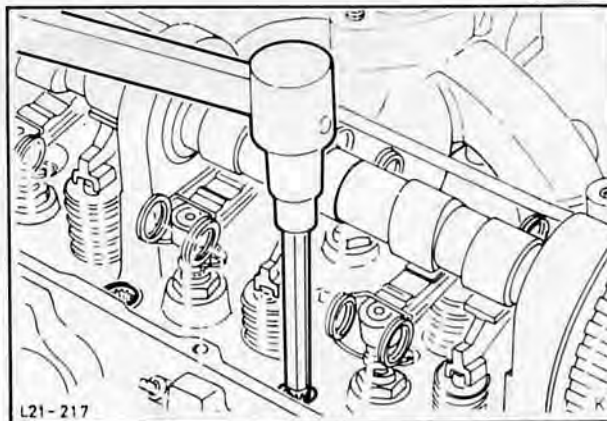

Fig. 80. Unscrew cylinder head bolts with Special Tool 21-002
12. Slacken cylinder head bolts (10) using Special Tool 21-002, Fig. 80. For unscrewing bolts reverse tightening sequence, Fig. 113. Remove bolts.